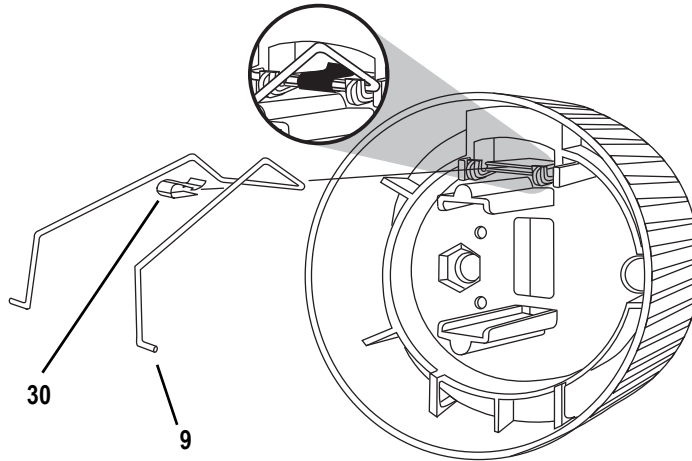

Figure 3
- Step 1: Set the crossbar of the retainer clip (9) under the two hooks on the clip bracket as shown in Figure 3.
- Step 2: Place the Tinnerman clip (30) over the retainer clip crossbar between the two hooks and press it down firmly until it snaps into place.